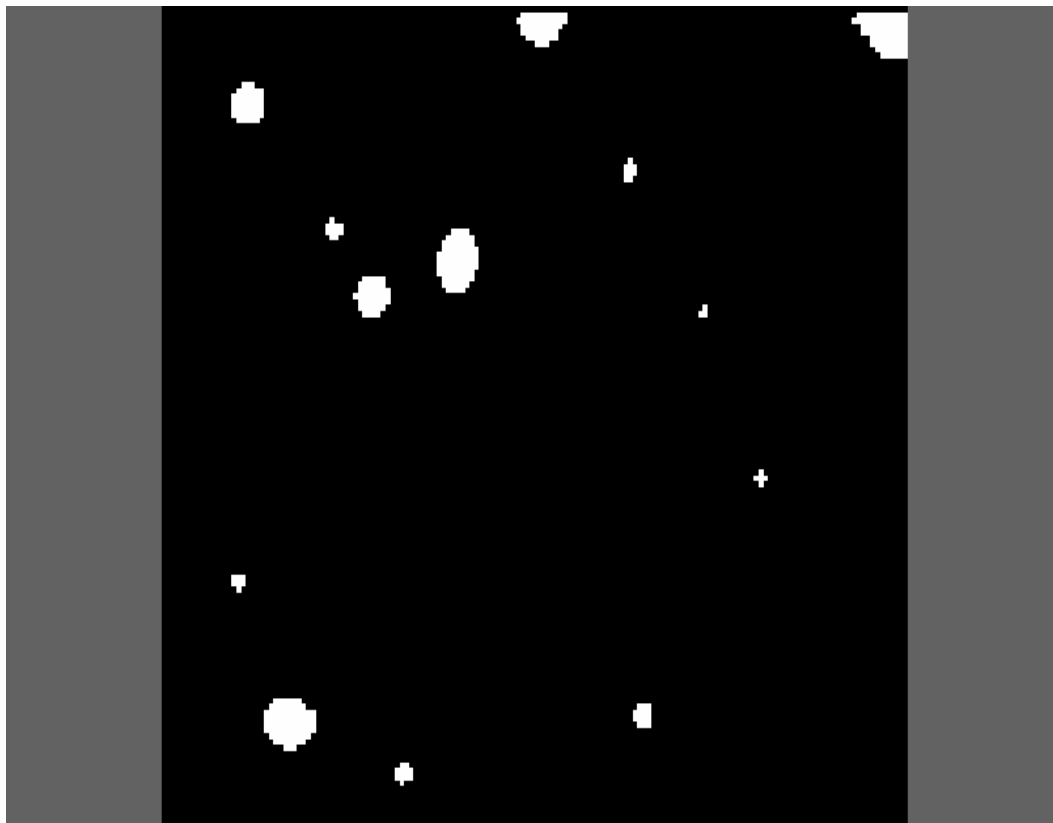

Figure 4:
12. With the application of the **Zero Border** filter as shown in Figure 4 on the following page, the video image is now ready for particle tracking.